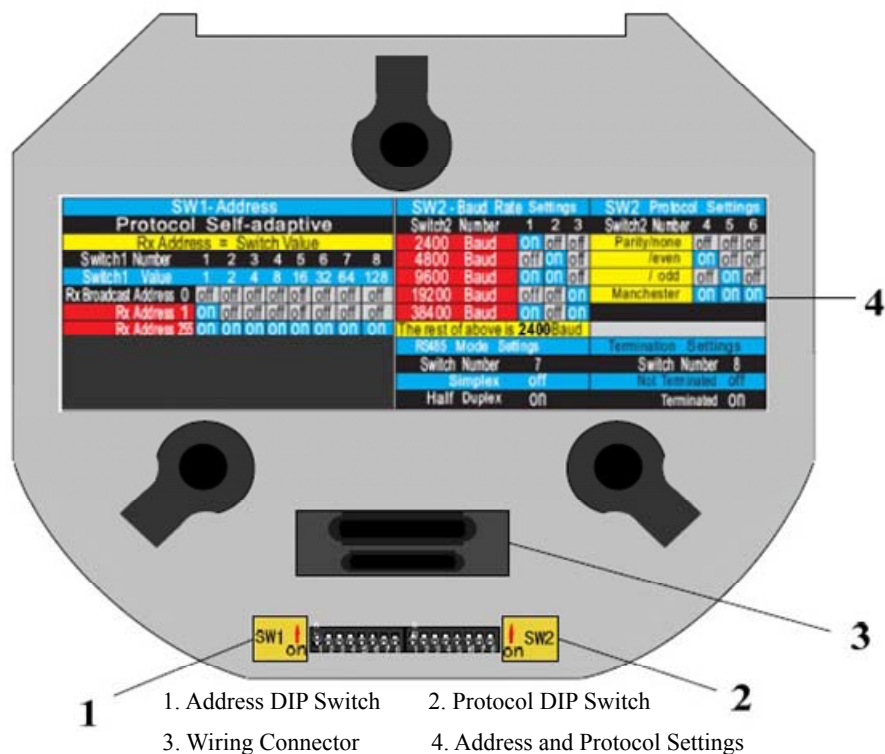

Figure 1.2.2 Bottom Board of Dome Drive
3. Configure the dome address, baud rate and other settings through DIP switch SW1 and SW2 located on the bottom board of the dome drive, as shown in Figure 1.2.2. Please refer to *Section 1.4 DIP Switch Settings* for setting address, baud rate, communication protocol, etc.
3. Configure the dome address, baud rate and other settings through DIP switch SW1 and SW2 located on the bottom board of the dome, as shown in Figure 1.2.2. Please refer to Section 1.4 DIP Switch Settings for setting address, baud rate, communication